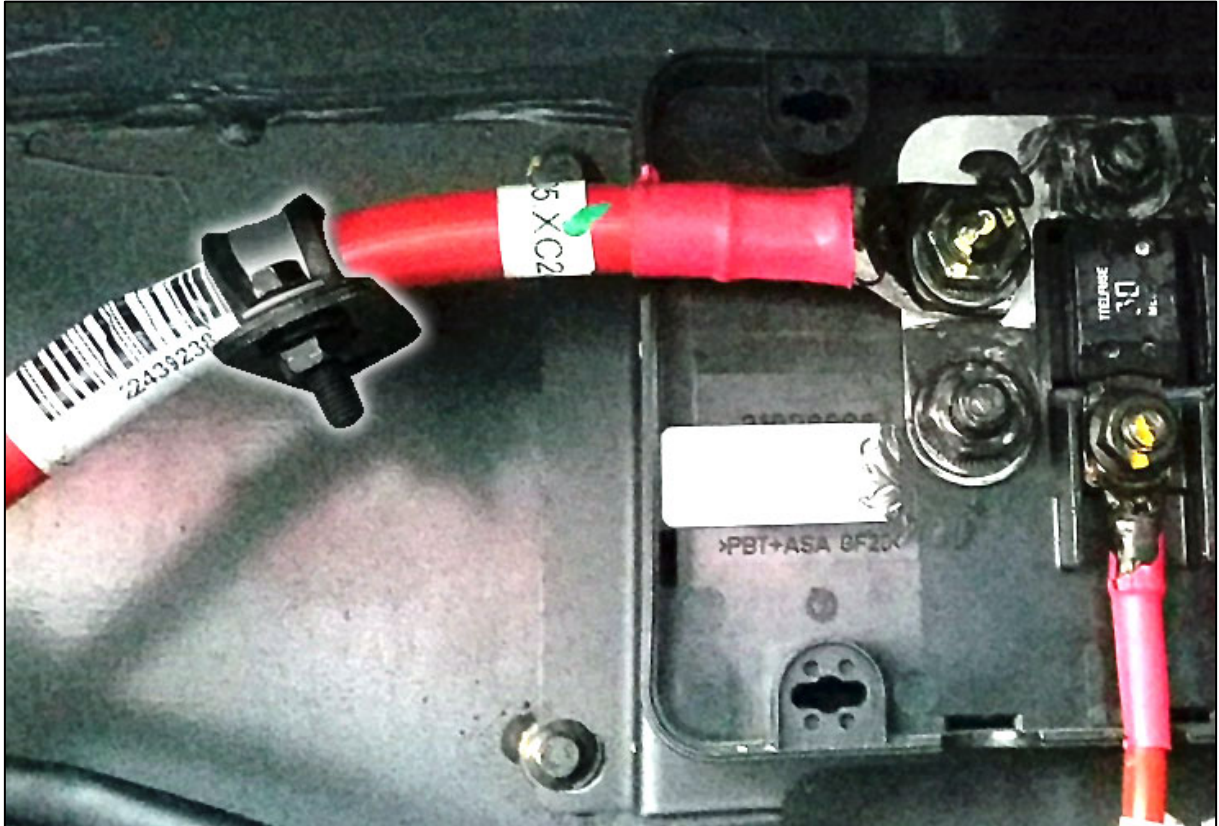

Figure 6: P-clamp on main cable. Position may vary.
11. Inspect the P-clamp at the left of the battery box. (Figure 6). Make sure it is secure. Position may vary.